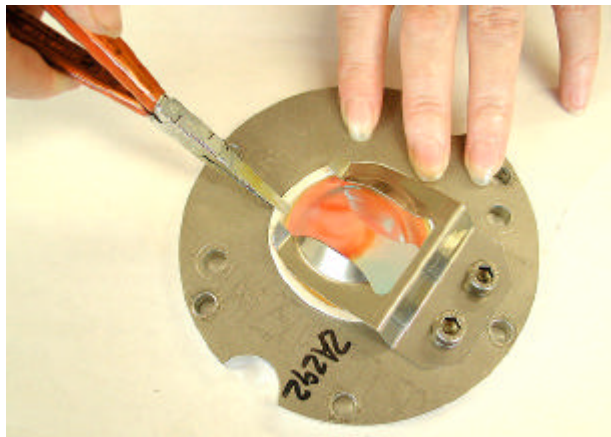

Fig. 13. Removal of lamp gasket (and filter, when fitted).
- Release 5 x M6 screws and remove the prism clamp (6)
- Remove filters, (21) by:
- Carefully pinch the rim of the lamp gasket with long nose pliers and remove the filter (21) and lamp gasket (22) together. See **Fig. 13**.